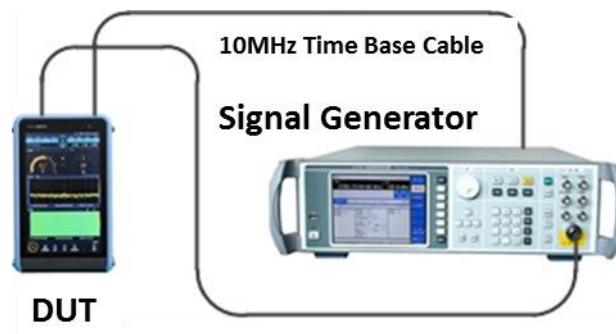

Fig. 8.16 Schematic diagram of the panoramic scan speed test
- 1) Connect the instrument according to Figure 8.16. Synthetic signal generator and the device to be tested share a common time base.